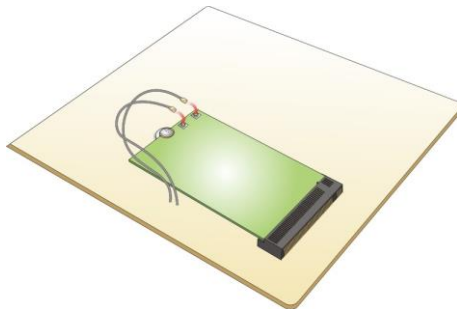

Figure 3-7: Connecting RF Cables
Step 5: Connect the two RF cables to the antenna connectors on the WLAN module (Figure 3-7).